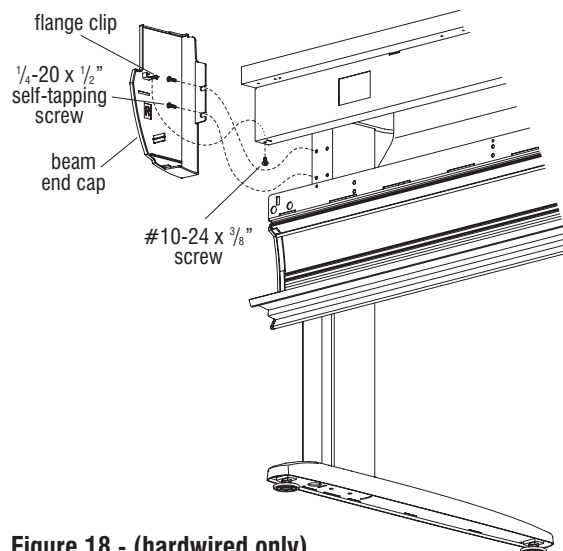

Figure 18 - (hardwired only)
1. Snap the beam end cap into the open end of the steel power and data beam. Secure the end panel to the leg as illustrated with two $\frac{1}{4}$ -20 x $\frac{1}{2}$ " self-tapping screws. Also secure the clip flange of the beam end cap to the power beam using #10-24 x $\frac{3}{8}$ " screw (Figure 18).